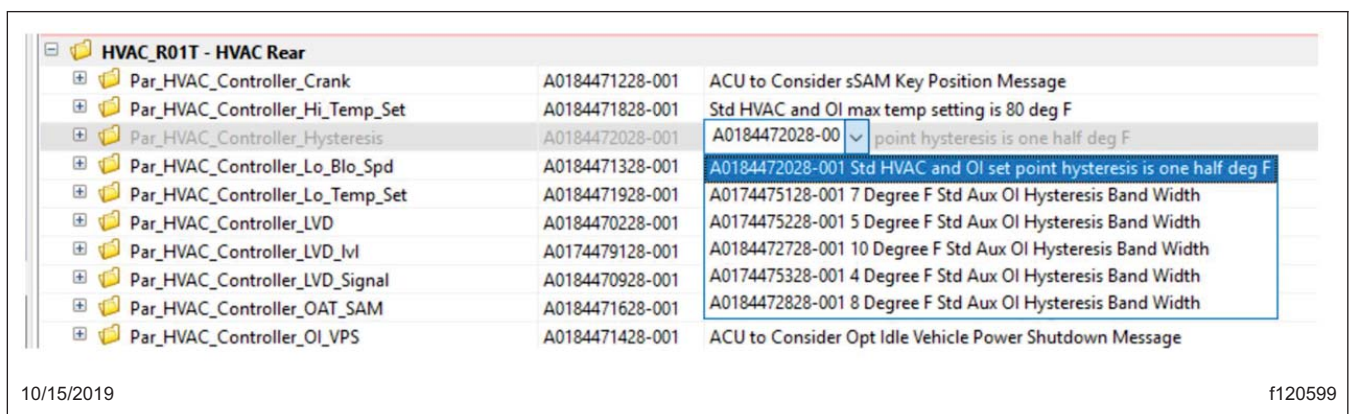

Fig. 11, Changing the Rear HVAC Hysteresis to the Desired Setting
17. To maintain pairing of the rear and front HVAC controllers, both the front and rear parameters Par_HVAC_Controller_Hysteresis need to be set the same. Select the desired temperature range for the rear HVAC as shown in Fig. 11. After making the change, set the same temperature range for the Front HVAC as shown in Fig. 12. See Table 4 for pairing values.